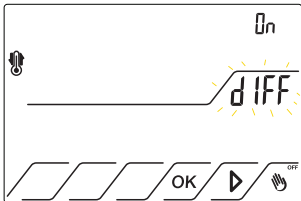

Fig.15
7.1.7 Press OK to confirm. Fig.15
7.2.1 Repeat the steps 7.1.1-7.1.4. Fig.15